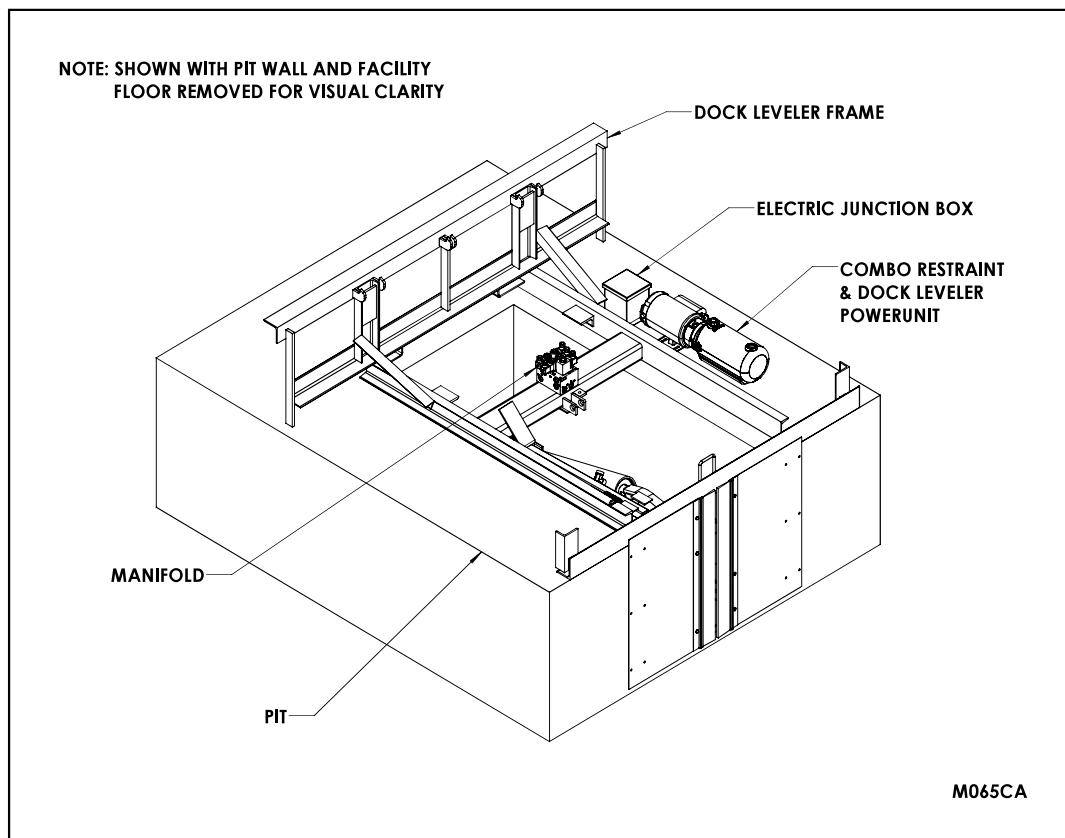

Figure 8: Power Unit and Junction Box
10. ___ Mount power unit and the signal junction box (by others) in the pit (See Figure 8: Power Unit and Junction Box). Ensure that these components are mounted in a location which ensures they will not make contact with the dock leveler but are close enough to the vehicle restraint to allow the pre-wired proximity and pressure switches to reach the junction box. It is recommended to locate the components toward the rear of the dock leveler pit. This accommodates the fact that the dock leveler deck assembly will move below floor level during operation. Note: The control panel and the power unit are to be located in an area that is clean, dry, and free from exposure to liquids and excessive debris and external weather.